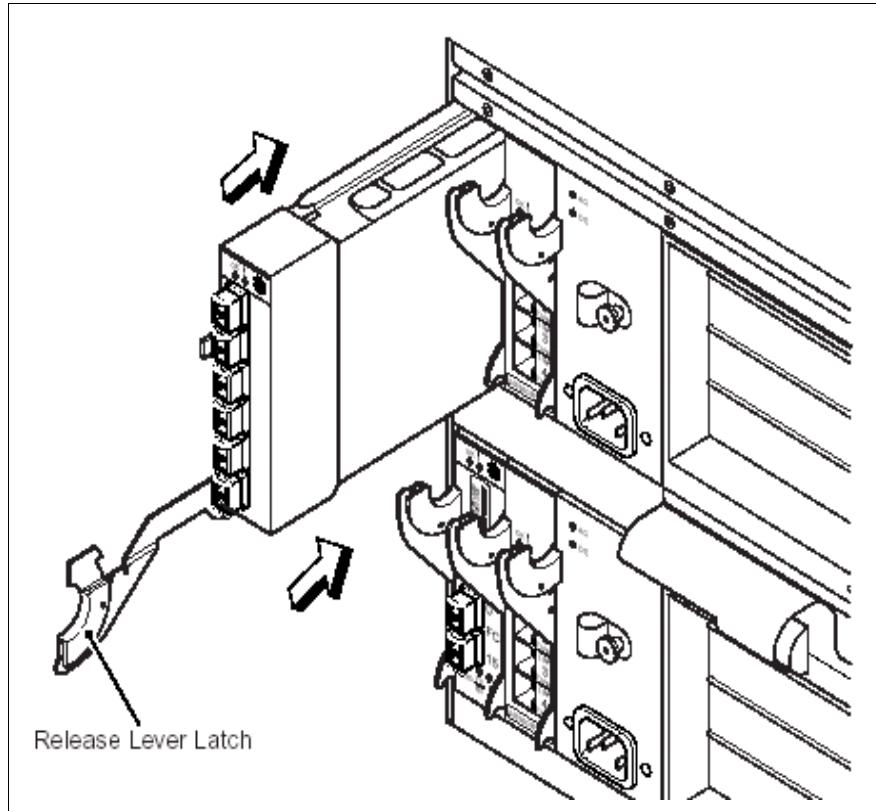

Figure 4-6 N-1
5. Slide the switch module into the open slot, as shown in Figure 4-6 on page 43.